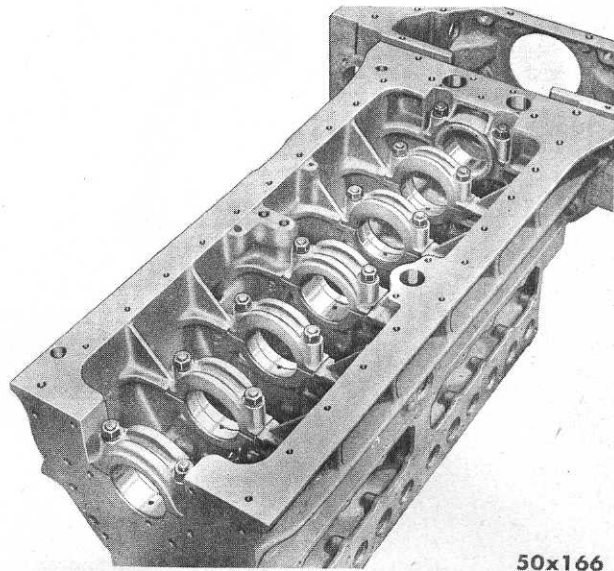

Fig. 13—Cylinder Block and Main Bearings (B-4-R, B-4-T, B-4-V and B-4-Y) (Typical of Other Models)
- (1) Clean crankshaft thoroughly and blow out all oil passages with compressed air.
- (2) Inspect journals for scoring, wear or cracks. If necessary, regrind and install undersize bearings.
- (3) Measure main and connecting rod journals at several places to determine if the journals have become worn.
- (4) If it is necessary to replace main bearing shells before setting the crankshaft in place, make certain that the bearing shells are placed, as shown in Figure 13, page 23. The oil holes in the shells must register with the oil holes in the cylinder block.
- (5) After the upper bearing shells have been placed in the crankcase, apply clean engine oil to all journals and bearings. Install the crankshaft.